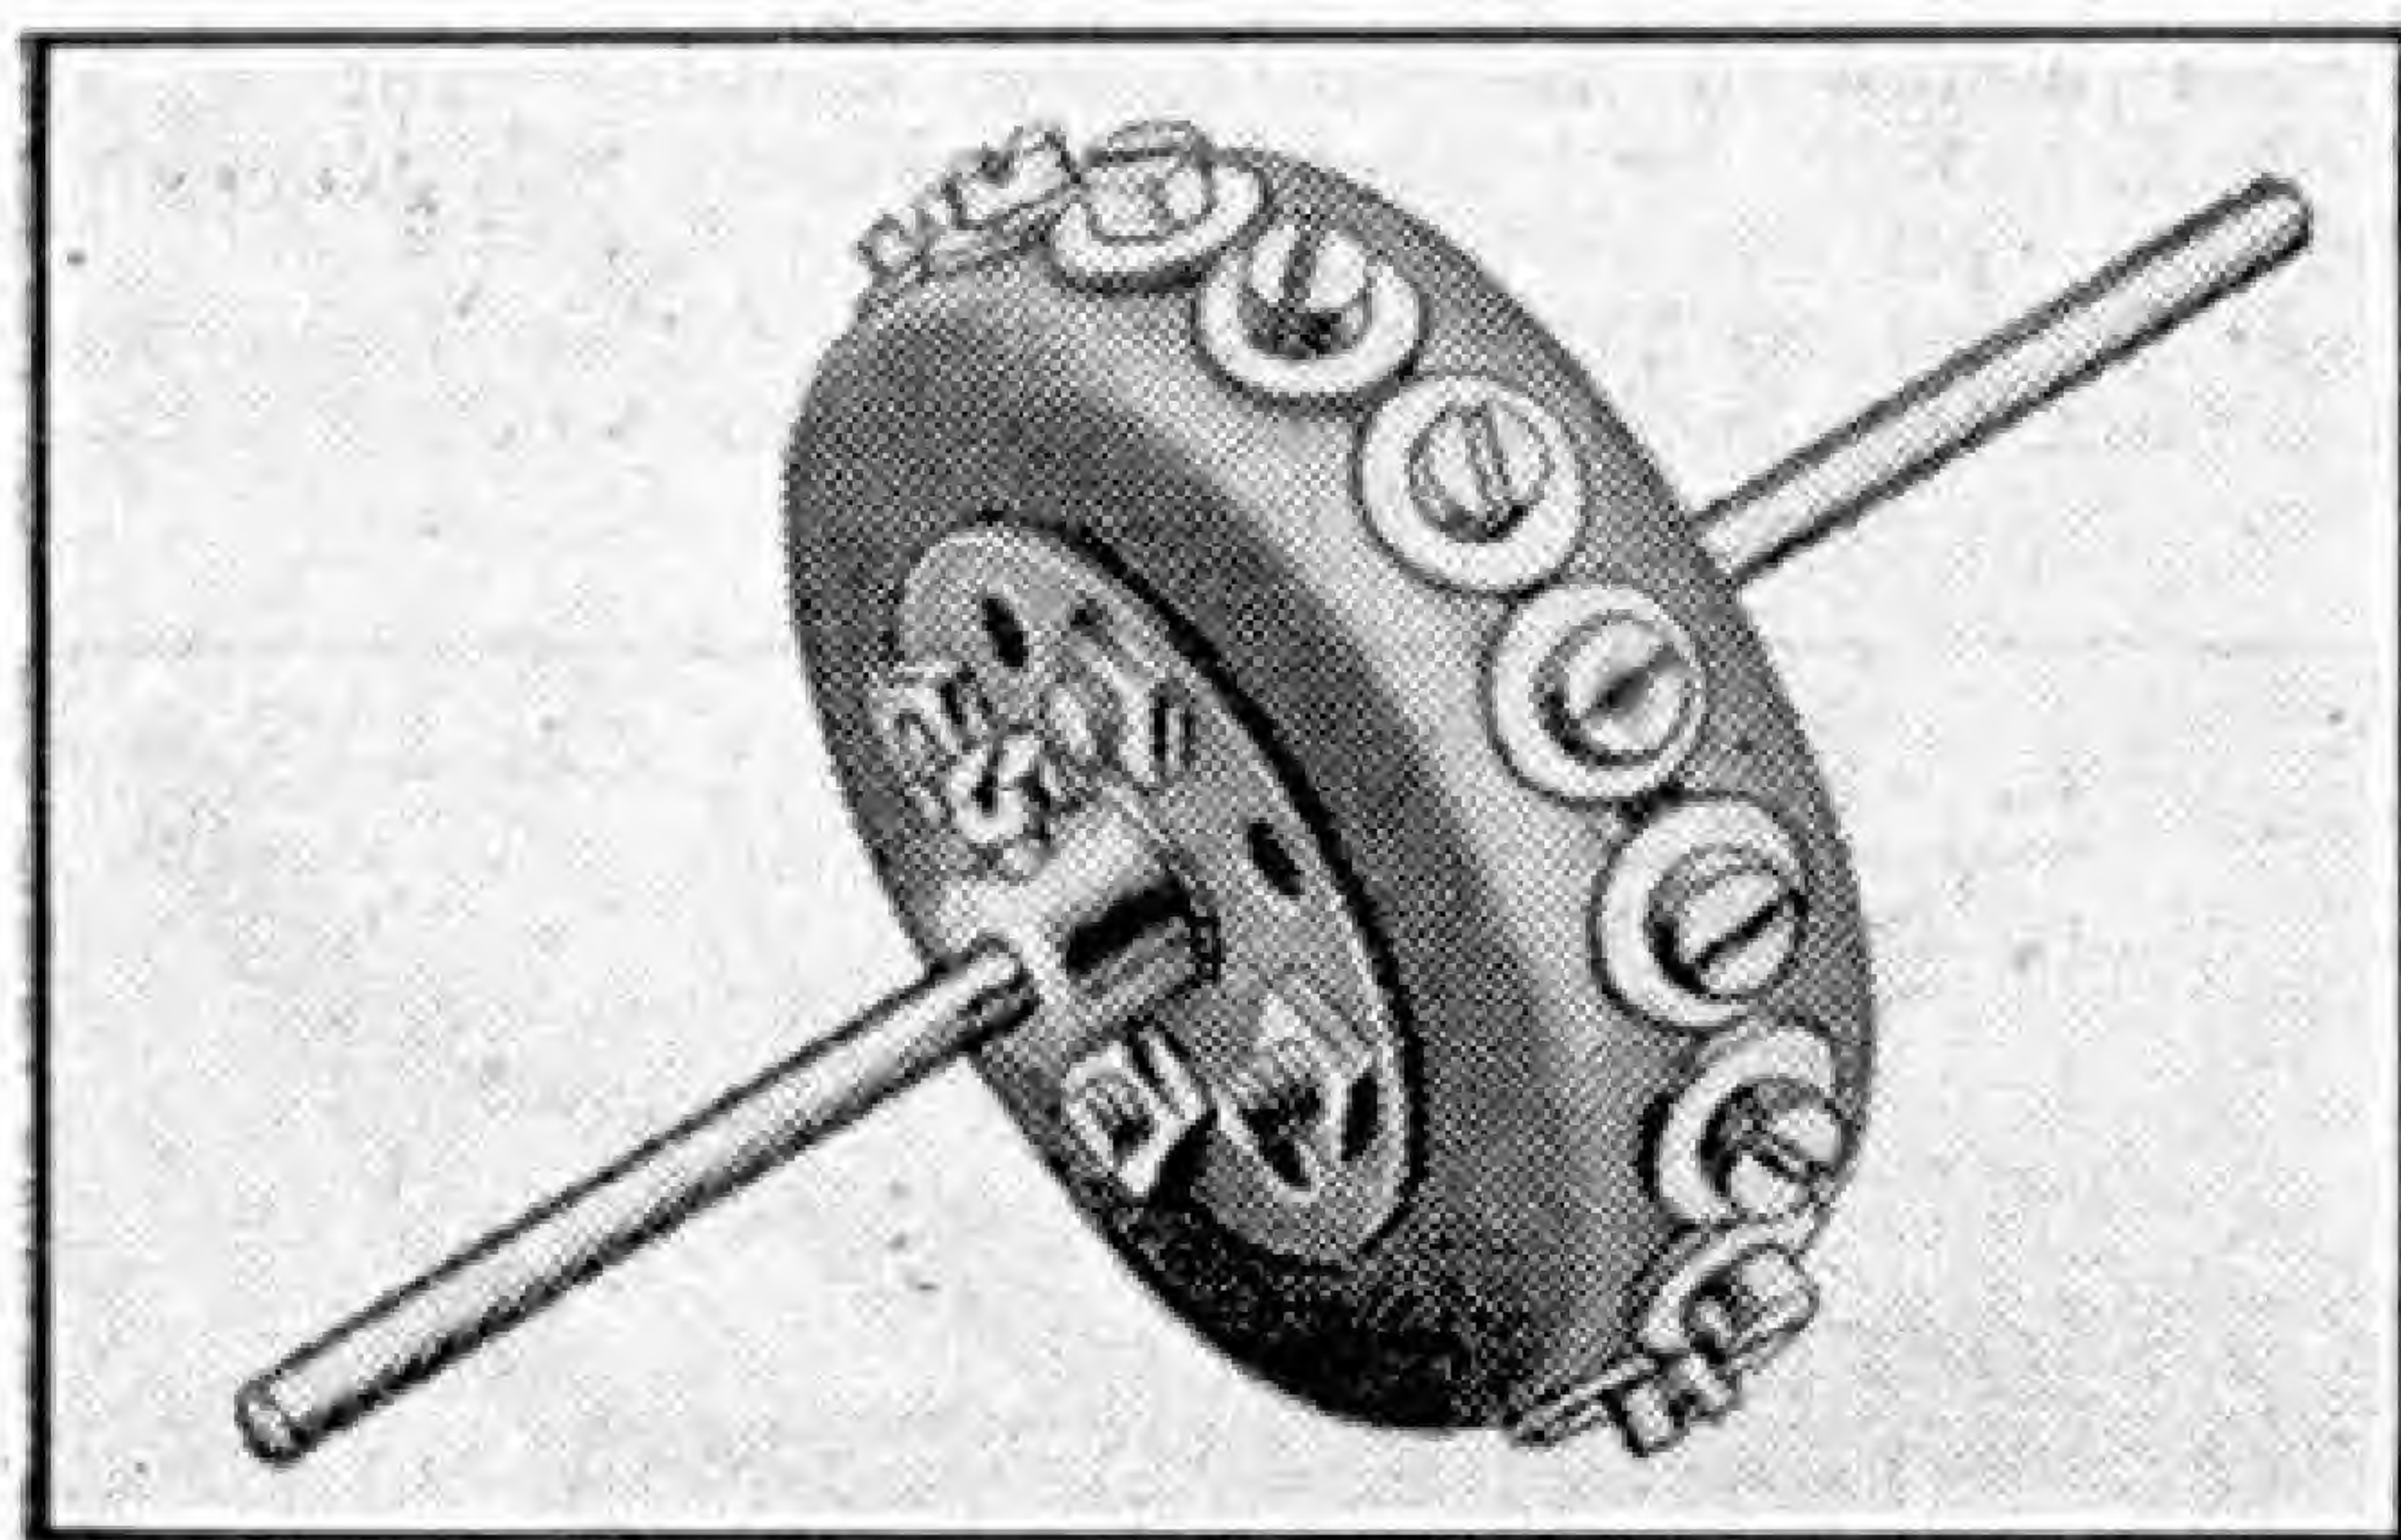

Fig. 611.
G. T. Parkyn, Barnet, brings to my notice some details of experiments he has carried out with a Meccano clock operated by a synchronous electric motor. He seems to have obtained very satisfactory results and I think that readers of the "M.M." will be interested in Fig. 611 on this page, which shows the rotor of the motor and illustrates the simplicity of its construction.